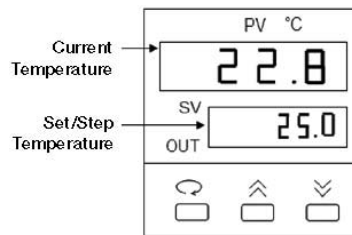

Fig. 1. Temperature Control Screen.
- The temperature control screen (see Fig. 1).
1. From the temperature control screen, use the arrow keys to adjust the Set Temperature to your desired target temperature in °C (Fig. 1)
**Note:** Following programming by default the controller displays the Step Temperature rather than the Set Temperature (see Fig 1. below). The step temperature is the next temperature value the system will reach as it heats/cools to reach set temperature. To display the Set Temperature press the  key.